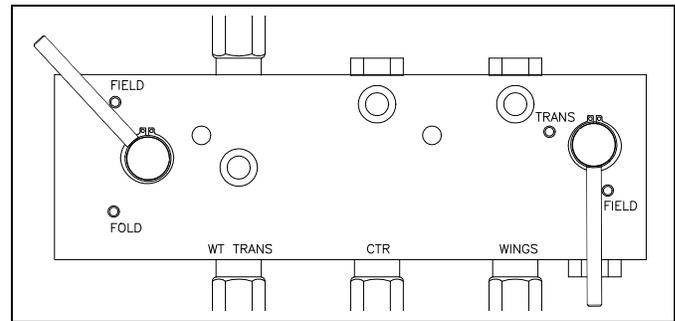

Figure 18
- Loosen lock-ring ② and completely close off bypass cross-flow by turning knob ③ fully clockwise.
**Refer to Figure 18**